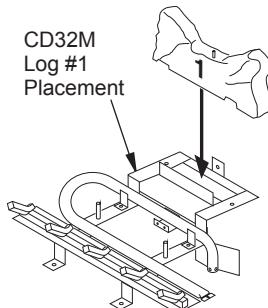

Figure 18 - Installing Log #1
- Place log #1 (back log) on top of grate as shown in Figure 18 for the CD36M-A Series. Log #1 will go in front of the metal partition on grate (see Figure 18). Make sure notches in bottom of log fit over grate.